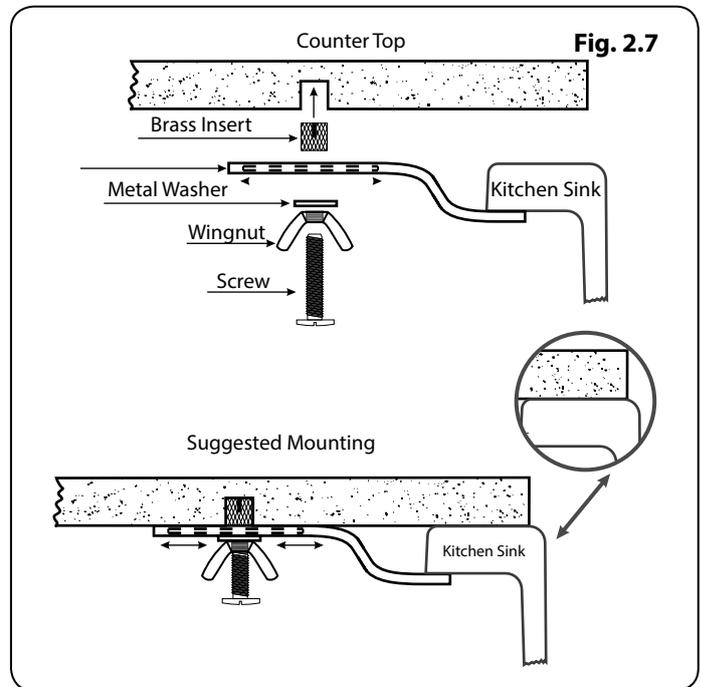

Fig. 2.7
1. Secure the sink by screwing the sink clips into position as shown in **Fig. 2.7**.